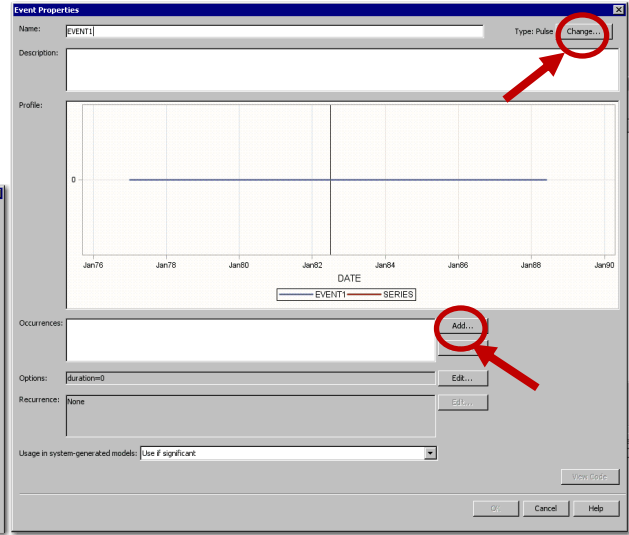

Figure 5.3: Event Properties Dialog Box
2. Click **New**. The **Event Properties** dialog box appears, as shown in Figure 5.3.